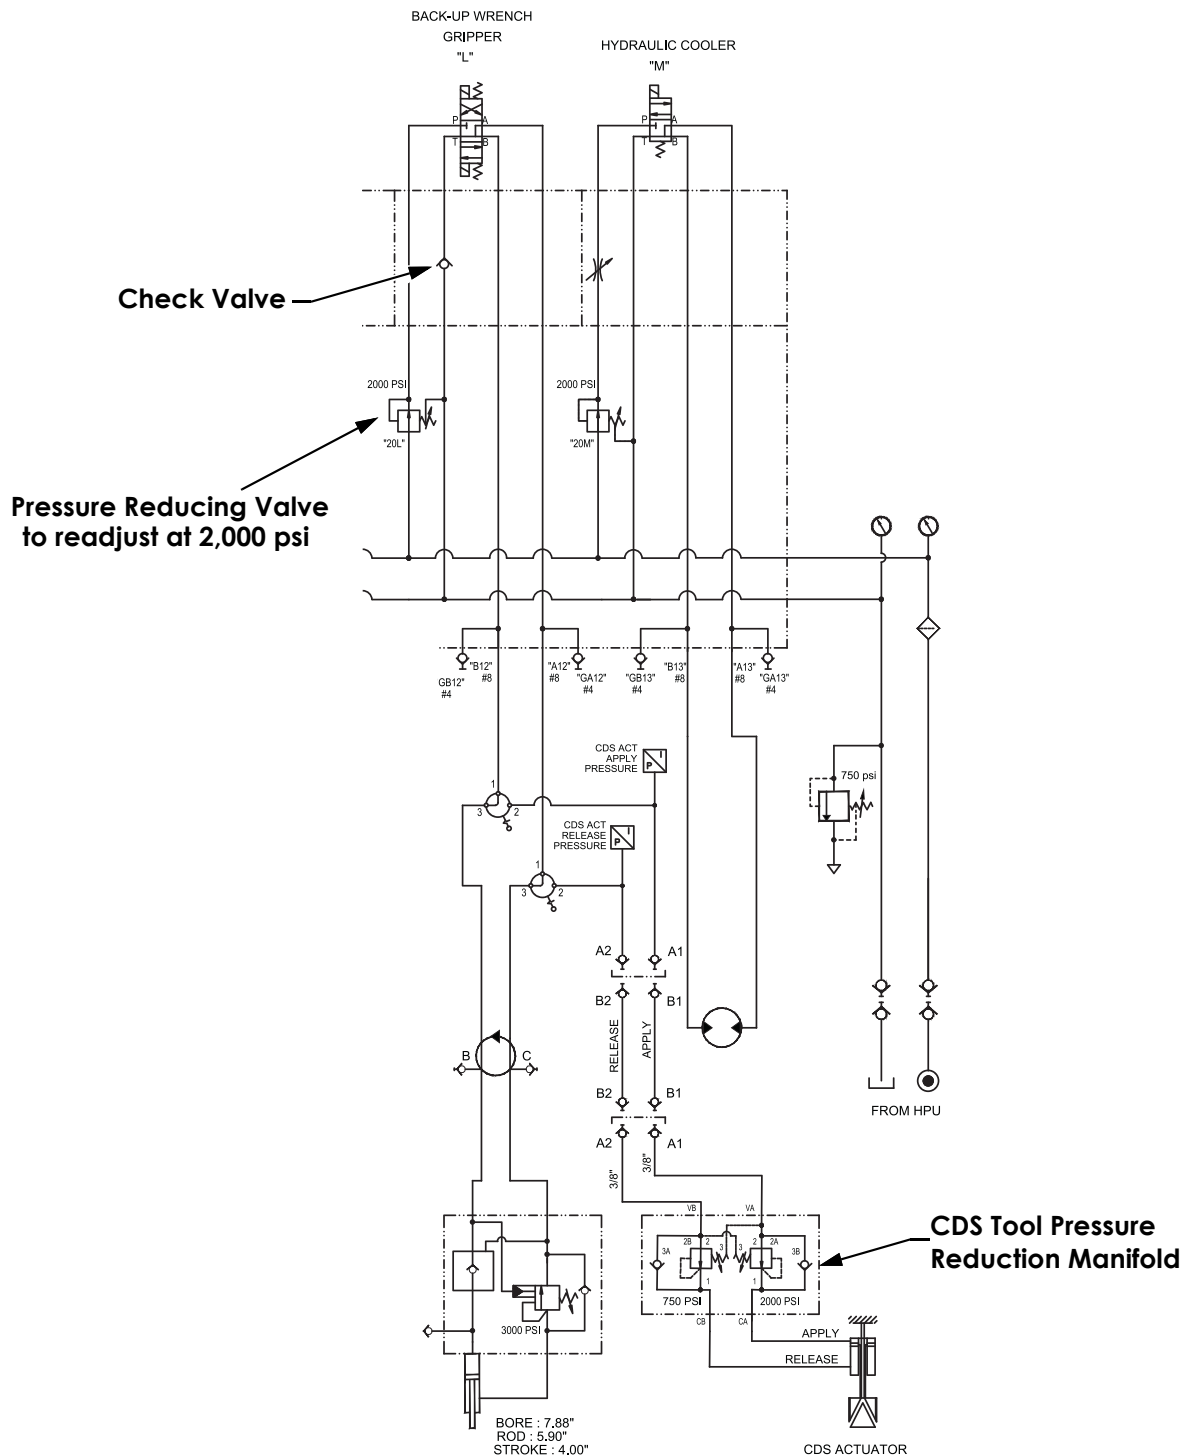

Figure 2: Schematic for the BUW after removing the pressure reducing valve with check valve
- To prevent this situation, remove the pressure reducing valve on station "L" (BUW gripper) of the top drive hydraulic manifold and install the check valve. Contact RIGLINE 24/7™ to order the kit (Canrig P/N: AY25154) and refer to section below "Check Valve Installation" on page 5. See Figure 2 on page 3 for schematic included with check valve stack attached to top drive hydraulic manifold.